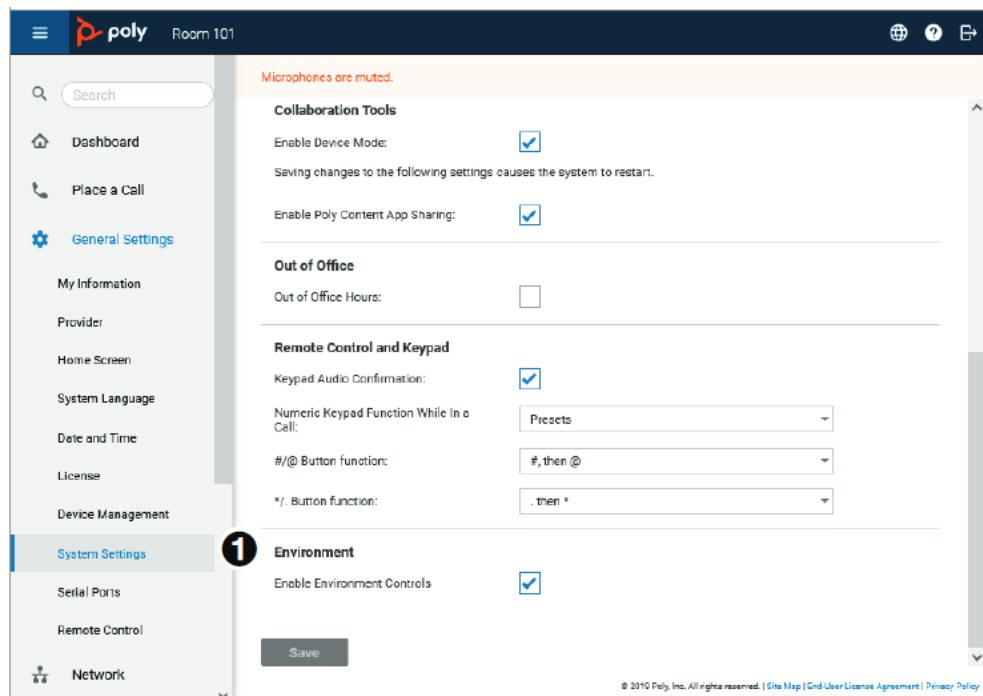

Figure 3. Poly System Web Interface
2. Under Environment (see figure 3, ❶), select the **Enable Environment Controls** checkbox.